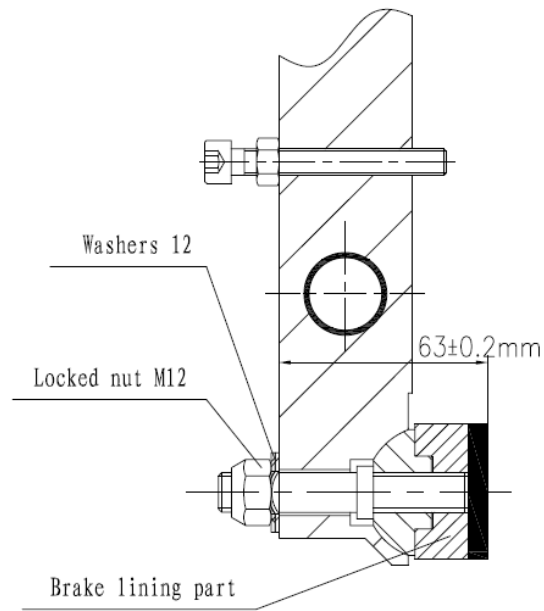

Figure 37 Emergency Brake Lining Replacement
6. Place the Brake lining part into the hole of Brake arm part put two (2) washers 12 and tighten the bolt with locked nut M12, then the locked nut M12 must be unscrewed one half turn. **Note: Tighten the locked nut M12 to get the measurement $63\pm 0.2\text{mm}$. See figure 37.**